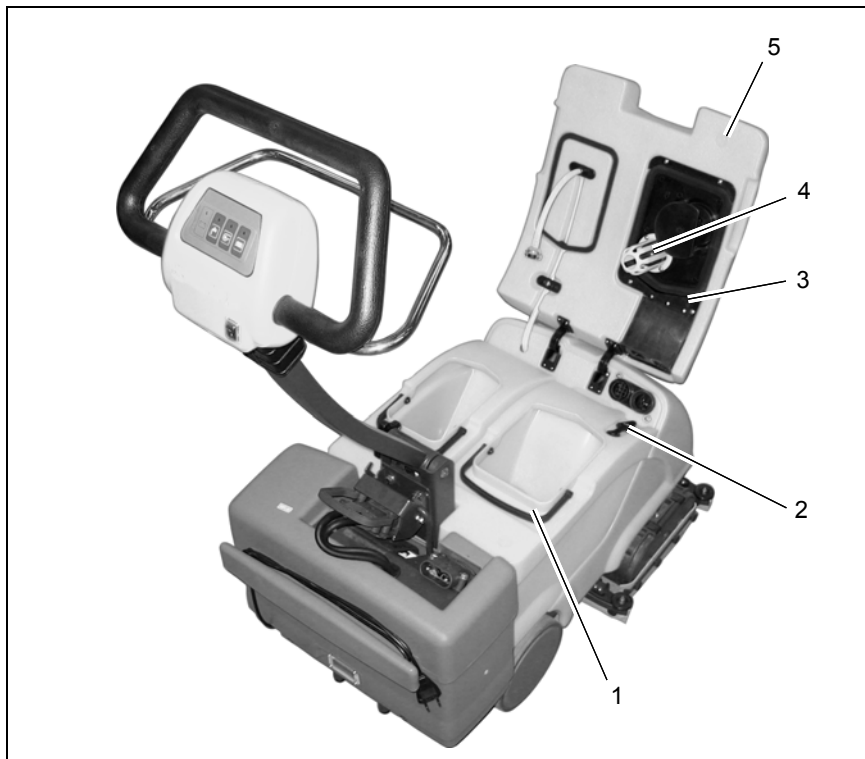

Fig.17
Clean the recovery tank (Fig. 17/1) every day or as necessary.
2. Open the housing cover and remove the recovery tank (Fig. 17/1).
3. Bring the recovery tank to an applicable disposal point, open the drain plug (Fig. 17/2) and empty the recovery tank completely.
Check the recovery tank seal (Fig. 17/3) weekly and clean or change as necessary.
2. Open the housing cover and remove the seal (Fig. 17/3) from the housing
Check the function of the air intake filter (Fig. 17/4) daily and clean it as necessary. The air intake filter can be disassembled by means of a clip mechanism.